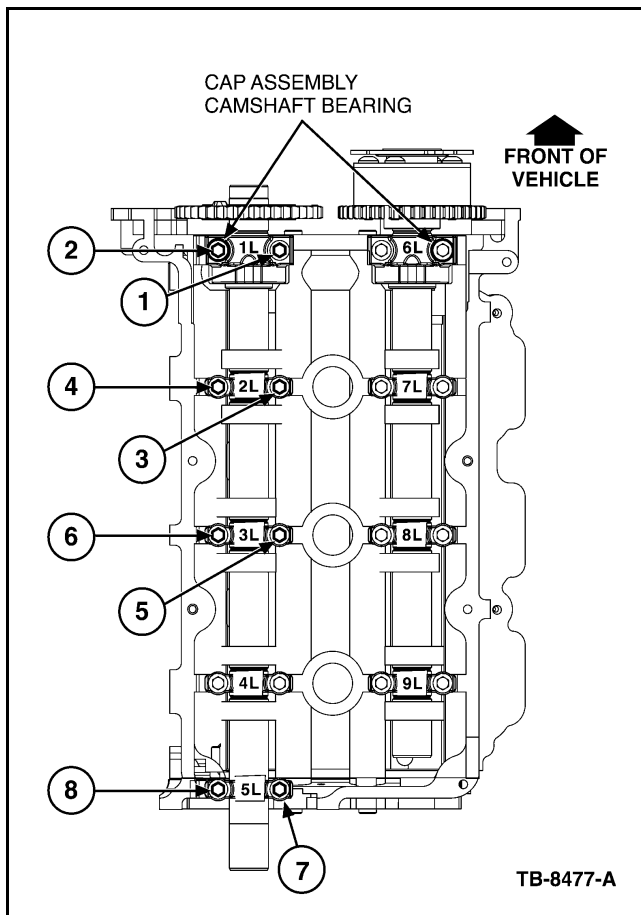

Figure 2 - Article 08-3-10
4. Torque bolts in sequence as shown in Figure 2, to 72 lb-in (8 N•m) excluding cam cap number 4L camshaft cap.